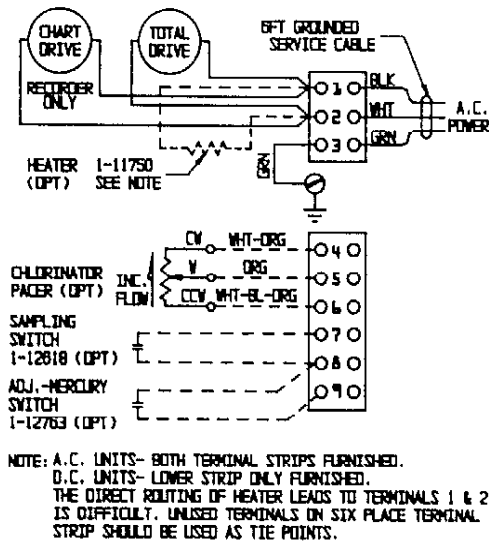

Figure 7. Wiring Diagram, Total Flow Meters, Model 61M and 61R
4.3.3.7 If AC drive, connect the wires to the proper terminals. See Figure 7.
6.1.1.7 Attach the switch leads to the terminal strip as indicated in Figure 7. Be sure the leads are long enough to allow for pointer plate travel.
- 6.2.6 Connect the wiring to the proper barrier strip terminals as shown on Wiring Diagram Figure 7.
6.3.1.7 Connect the wiring as shown on Wiring Diagram Figure 7.
6.4.1.3 Attach the two heater lead terminals to the upper terminal strip as shown in Figure 7.